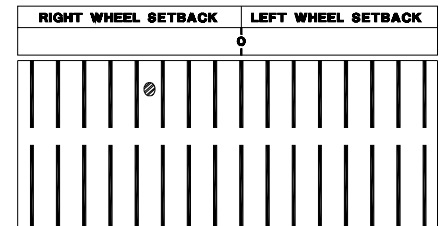

Figure 2
1. Beam image above and left of zero (Figure 2)